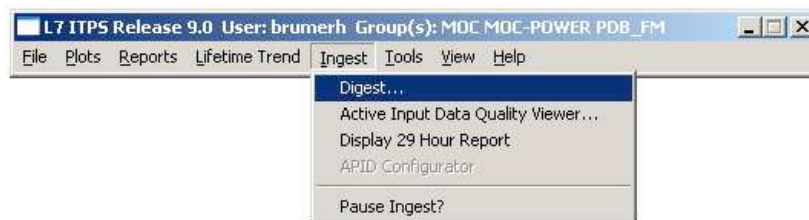

Figure 116: Ingest Menu Digest Selections
- Select “Digest” from the Ingest Menu (see *Figure 116*).
- Select "Digest" from the Ingest Menu (see *Figure 116*).